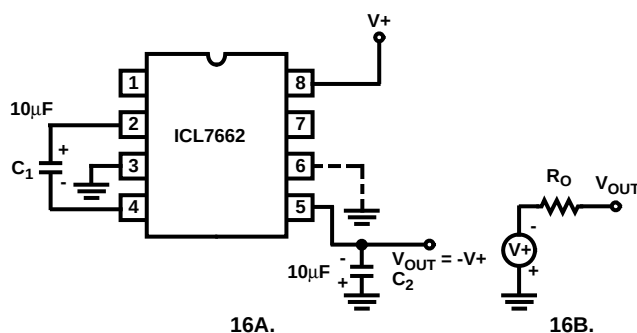

FIGURE 16. SIMPLE NEGATIVE CONVERTER AND ITS OUTPUT EQUIVALENT
The majority of applications will undoubtedly utilize the ICL7662 for generation of negative supply voltages. Figure 16 shows typical connections to provide a negative supply where a positive supply of +4.5V to 20.0V is available. Keep in mind that pin 6 (LV) is tied to the supply negative (GND) for supply voltages below 10V.
Figure 23 combines the functions shown in Figure 16 and Figure 22 to provide negative voltage conversion and positive voltage doubling simultaneously. This approach would be, for example, suitable for generating +9V and -5V from an existing +5V supply. In this instance capacitors C_1 and C_3 perform the pump and reservoir functions respectively for the generation of the negative voltage, while capacitors C_2 and C_4 are pump and reservoir respectively for the doubled positive voltage. There is a penalty in this configuration which combines both functions, however, in that the source impedances of the generated supplies will be somewhat higher due to the finite impedance of the common charge pump driver at pin 2 of the device.